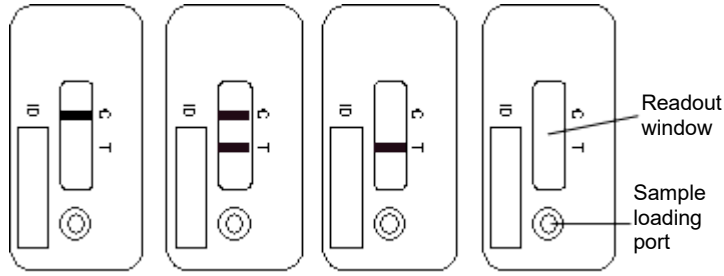

Figure 1A Figure 1B Figure 1C Figure 1D
- For a valid test result, the control line (C) must be visible in all cases (see figure 1A and figure 1B). It is used as a functional test control only and cannot be used for the interpretation of the test line (T). If the test line (T) is not detectable after 15 minutes of incubation time (figure 1A), the concentration of adalimumab present in the serum sample is below the detection limit. If a test line (T) is detectable after 15 minutes of incubation time (figure 1B), the adalimumab concentration present in the serum sample is calculated by the Quantum Blue® Reader.